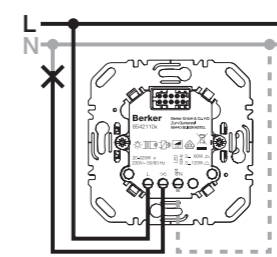

Figure 3: Push-button dimmer 1gang
- Connect the push-button dimmer according to the connection diagram (Figure 3 to 6).
- i** The push-button dimmers (comfort) 1gang, possess an optional N terminal (Figures 3 and 4). Operation without neutral conductor possible.